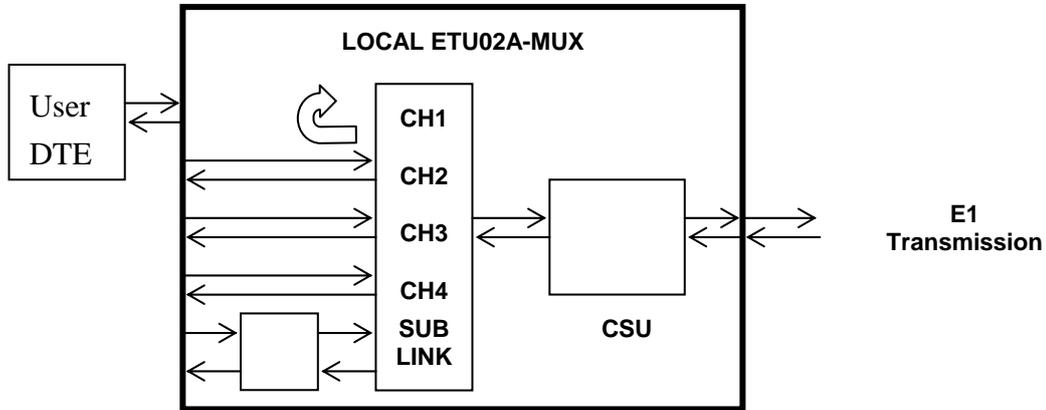

Figure 4-8. Channel local digital loop back
Channel local digital loop back is performed by connecting the local data channel receive data (RD) to the data channel transmit input (TD) in the digital mode, as shown in Figure 4-8. The test signal is provided by the remote user DTE.